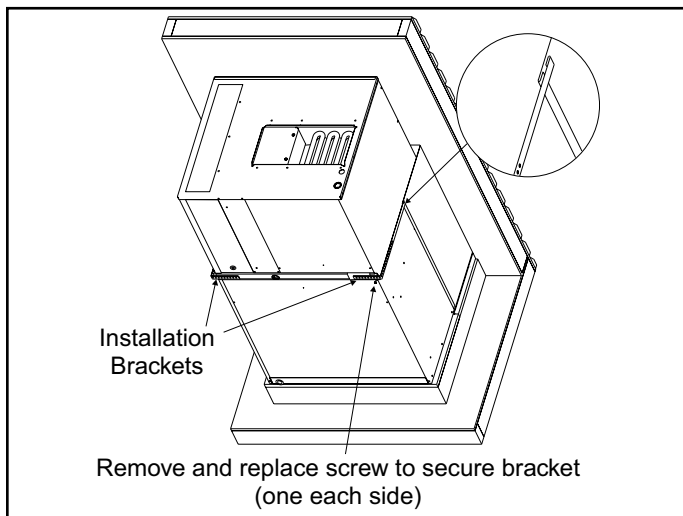

Figure 5. Securing Unit
5. Use the two installation brackets to secure the unit to the wall sleeve (see Figure 5). The units are shipped with the brackets placed in the return air compartment. Hook each bracket into the front edge of the wall sleeve side. Position the bracket so it can be bent around the front corner of the unit. Remove one of the two screws in that position on the unit. Line up one of the holes in the installation bracket with the screw hole and attach the bracket to the unit with that screw. Make sure to fasten tight enough that the seal is maintained. Trim off excess bracket if applicable.